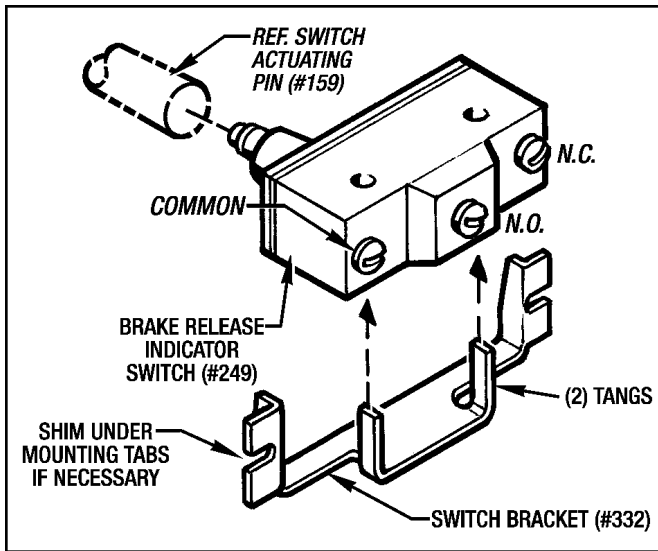

Figure 7.16 - Brake Release Indicator Switch
4. Pry the Switch (#249) up and off the (2) tangs on the Switch Bracket (#332) as shown in Figure 7.16.
5. Push the (2) tangs up and into the new Switch (#249).
6. Attach the Bracket (#332) to the (2) PEM Standoffs with (2) Screws (#328). **Use Blue Loctite #242.** Make sure the switch plunger is aligned with the Switch Actuating Pin (#159).